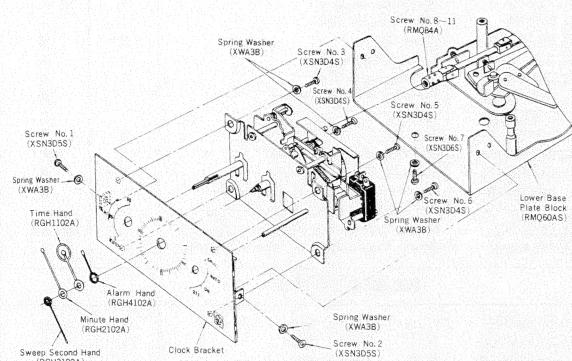

Fig. 16
3. Remove the time adjust shaft holding screws, 8 to 11, as shown in fig. 16.
4. Remove the clock metal fitting holding screws, 1, 2, and 7, as shown in fig. 16.
5. Remove the clock hands (four pieces), as shown in fig. 16.
6. Remove the clock holding screws, 3 to 6, as shown in fig. 16.